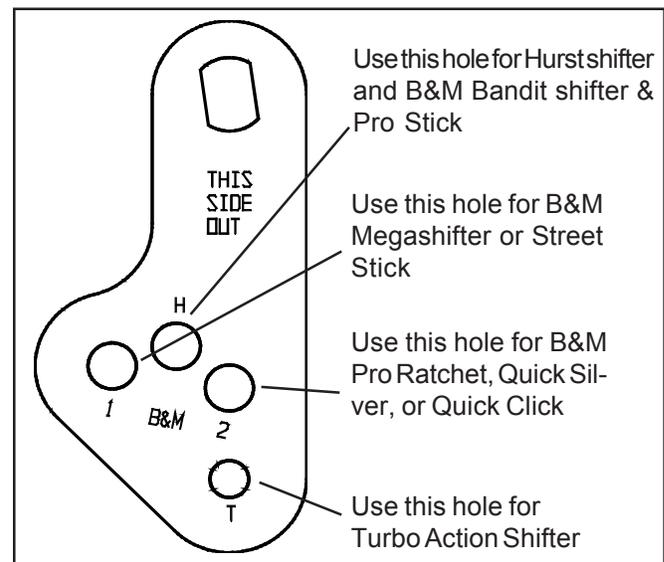

Figure 2
**STEP 11.** Move the transmission selector lever by hand to full rear position (Low). Place the shifter lever to the full rear position (Low gear with a forward pattern valve body). Adjust the large nuts on the cable so that the swivel will slide into the hole in the selector lever that is correct for your shifter (**See Figure 2**). Tighten the large nuts completely. Be sure that the swivel will slide freely in and out of the hole in the selector lever. **Note:** The shifter will not operate correctly unless the correct hole for your shifter in the shift lever is used. Leave the swivel out of the hole and move the selector lever to Park, all the way forward. Also move the shifter to the Park position (all the way forward). Reinsert the swivel into the hole in the selector lever. Check to see that the swivel will slide freely in and out of the rear hole in the selector lever in this position. If it does slip in freely, adjust the swivel slightly until it will slip into the hole in the lever. Move the shifter back to the Low gear position and check that the swivel will still slide easily in